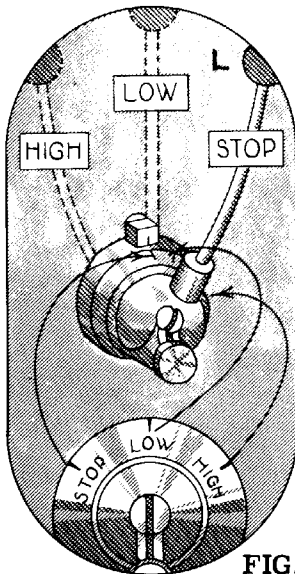

FIG. 49
Lever (L) in Figure 49 controls the volume adjustment of this valve. Its position in relation to the speed-control chart determines and indicates the cutting speed in feet per minute of the ram. Movement of the lever to the left reduces the volume of oil permitted to pass to the ram cylinder and results in a corresponding decrease in ram speed. Conversely, movement of the lever to the right increases the speed of the ram by increasing the flow of oil to its cylinder.
The start-and-stop valve (Fig. 49) is operated by lever (L) which controls both starting and stopping
of the shaper. The location of the start-and-stop valve on the shaper and the position it occupies in the hydraulic system have been illustrated on the hydraulic shaper. This valve, manipulated by lever (L) in Figure 49 exercises control over the shaper by actuating and working in conjunction with the flow-control and overload-relief valve to which it is connected with pipes.